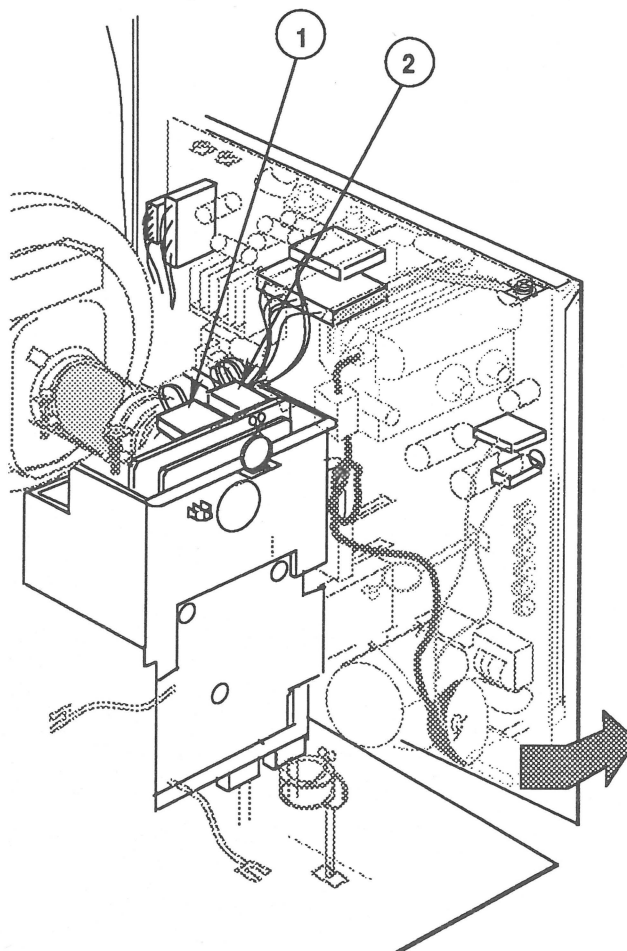

FIGURE 27
7. Pull open the right chassis panel just enough to gain access to the upper connectors (Figure 27, #1 and #2) on the CRT board. Support the CRT board with one hand, and disconnect the following connectors:
- 2-wire, 4-pin connector labeled **F** (Figure 27, #1)
- 3-wire connector labeled **K** (Figure 27, #2)